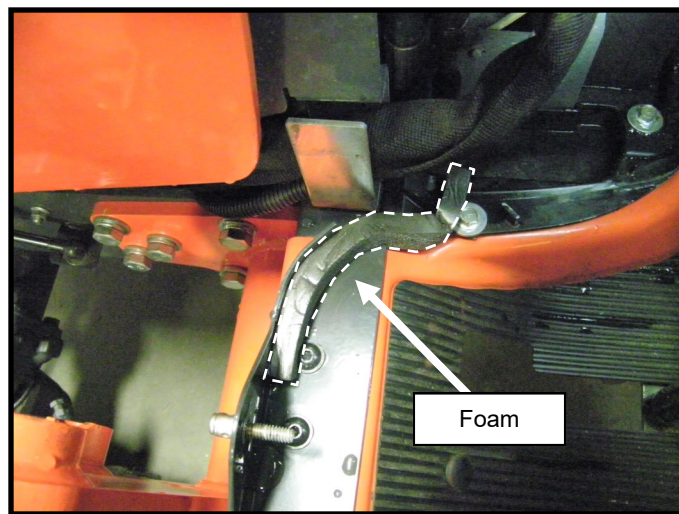

Figure 36: Foam Installation
36. Install a 7" piece of foam (see the white dashed lines in photo) to the top of the floorboard and route it down under where the air intake screen will sit as in Figure 36, repeat for the right side.